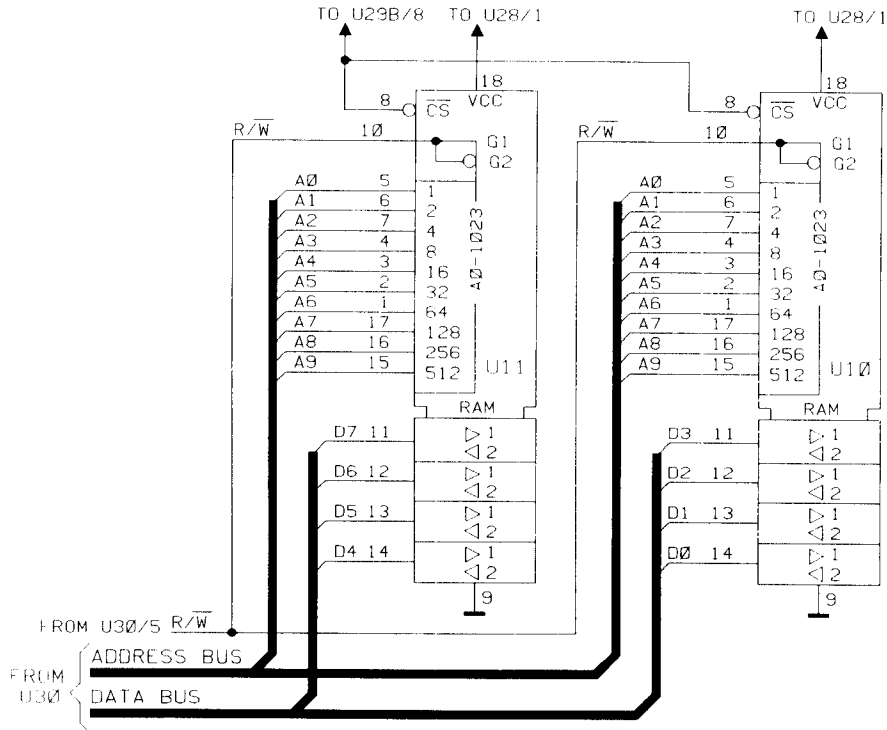

Figure B-4. 08116-66503: U10, U11 schematic
3. Figure B-4 shows the RAM circuit on the microprocessor board 08116-65503. Modify Figure 10.7-5 accordingly.